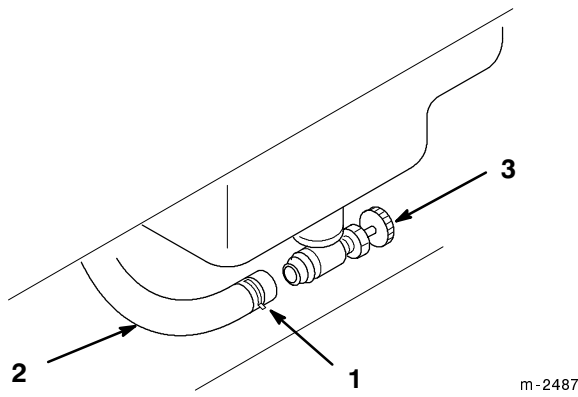

Figure 40
- Loosen the hose clamp and slide it up the fuel line away from the fuel shut-off valve (Fig. 40).
- Pull the fuel line off the fuel shut-off valve (Fig. 40).
- Slide the hose clamp close to the valve to secure the fuel line (Fig. 40).